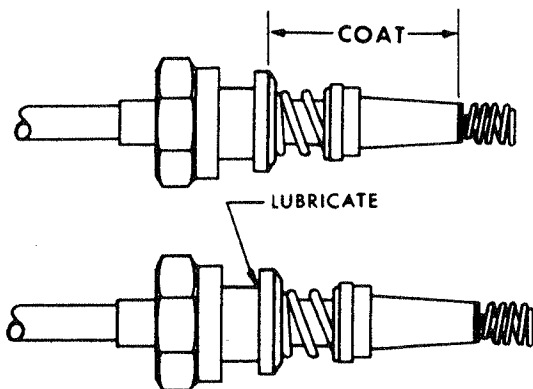

FIGURE 74-00-04A. COATING INSULATING SLEEVE.
C. To prevent sticking of sleeves and to minimize twisting of ferrule, coat insulating sleeves* and lubricate ferrule shoulders** (see Figure 74-00-04A). Fasten coupling nuts to the proper spark plugs and torque as specified in Table II. Tighten elbow assembly nuts to outer ferrule.